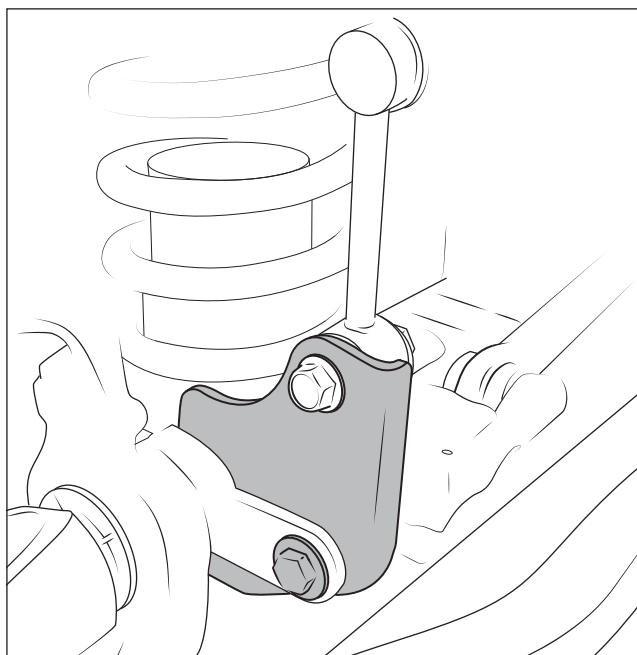

Figure 14
14. Install new sway bar end link brackets to the inside of the axle tab (fig. 14)—curved end of BOTH brackets will point left. Tighten to 80 ft lbs. Re-install end link to bracket and tighten to 75 ft lbs. NOTE: Right Hand Drive systems include replacement end links NOT brackets. Install the supplied end links.